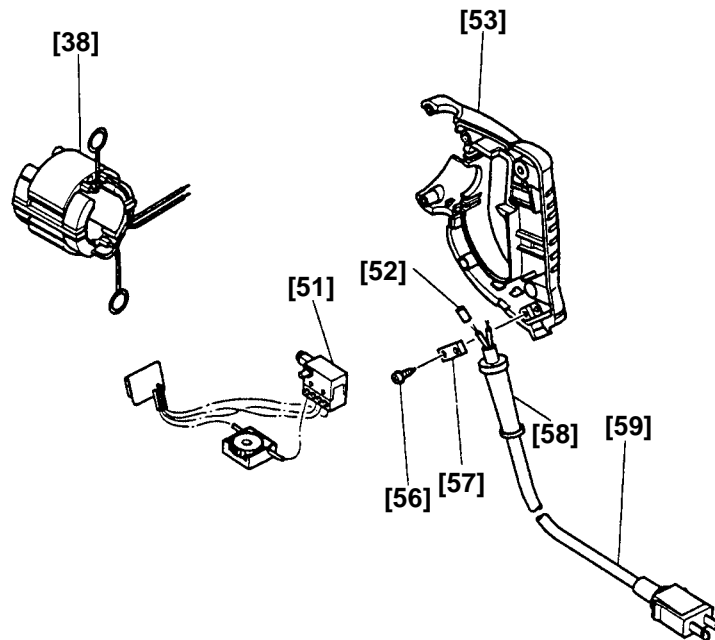

Fig. 9
(7) Removal of Handle (A) [53] and Switch [51] (Fig. 9)